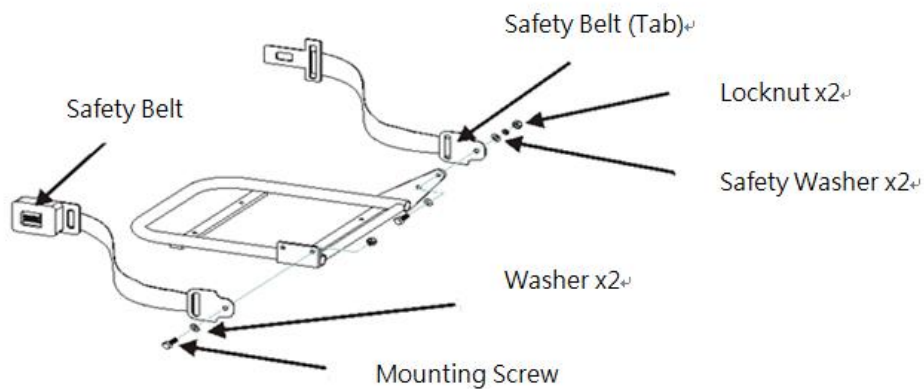

Figure 7.3
7.9.2 **Figure 7.3** shows the location where a pelvic belt can be attached by your Karma service provider. They have all the tools, service manuals and technical